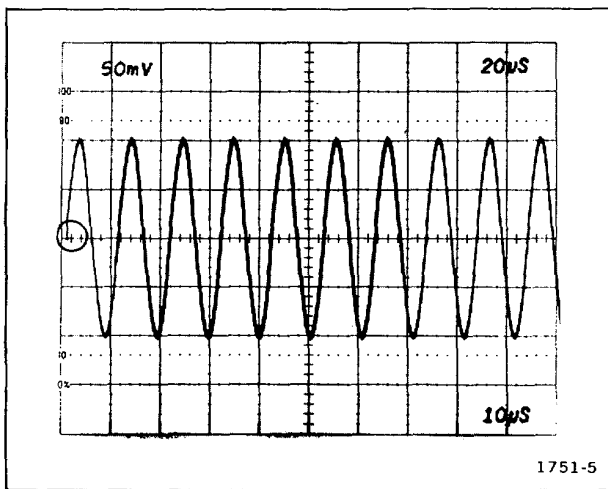

Fig. 5-5. DC balance (Circle denotes correct trigger point)
b. Adjust-Int DC Bal, R75, for a sweep trigger point at graticule centerline (TRIG'D light on). See Fig. 5-5 for reference.
- b. Adjust-Ext DC Bal, R99, for a sweep trigger point at graticule centerline (TRIG'D light on). See Fig. 5-5 for reference.
f. Adjust-Int DC Bal, R255, for a sweep trigger point at graticule centerline (TRIG'D light on). See Fig. 5-5 for reference.
b. Adjust-Ext DC Bal, R230, for a sweep trigger point at graticule centerline (TRIG'D light on). See Fig. 5-5 for reference.